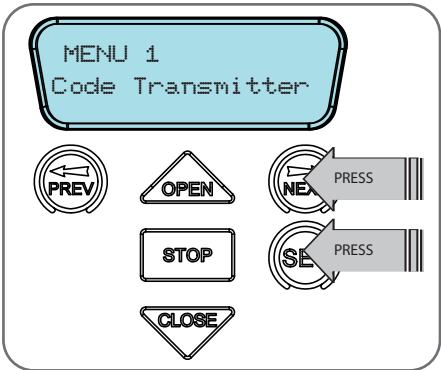

Fig G.1
- a. Press NEXT to navigate to Menu 1 (**Fig. G.1**).